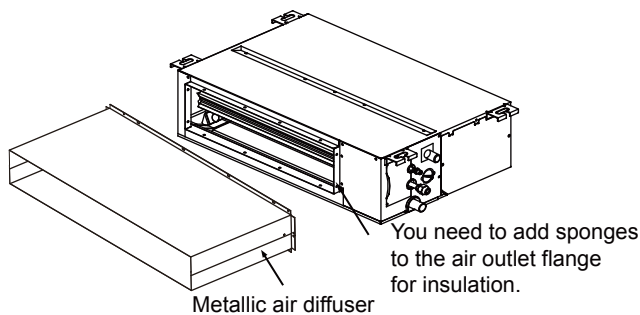

Figure 2.6
3. When the air outlet panel is connected to the air outlet flange of the unit body via the metallic air diffuser, make sure that the sheet metal contact surface is properly sealed and insulated using sponge, as shown in Figure 2.6.